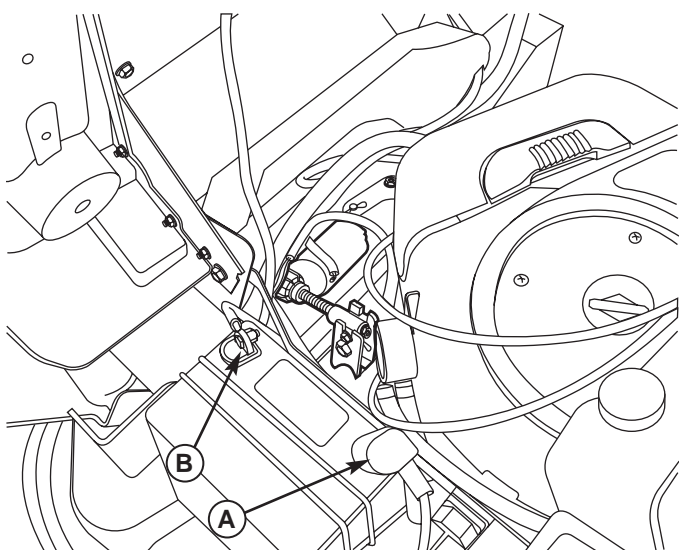

Figure 23. Engine Compartment
1. Disconnect the cables from the battery, negative cable first (B, Figure 23).
6. Reattach the battery cables: first attach the positive cable (see A, Figure 23), then attach the negative cable (B).